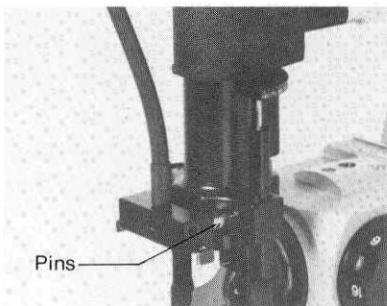

Fig. 63 -
- (a) Insert the pins of the background illuminator into receptacles at the lower end of the illumination section. (See Fig. 63)